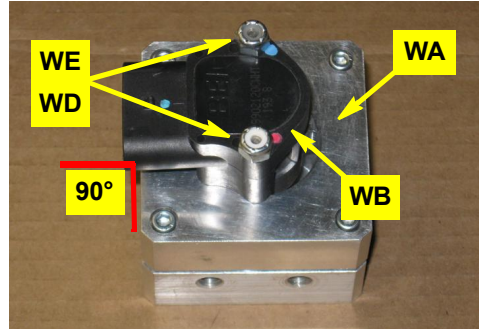

Figure 1a: Prepared WAS housing/connector
- a. Using the provided hardware **WE** (nuts) and **WD** (bolts - not visible), attach the WAS wire connector **WB** to the WAS housing **WA**. Install the bolts up through the bottom of the housing. The WAS wire connector **WB** can be mounted 90° to any of the WAS housing **WA** sides (Figure 1a).